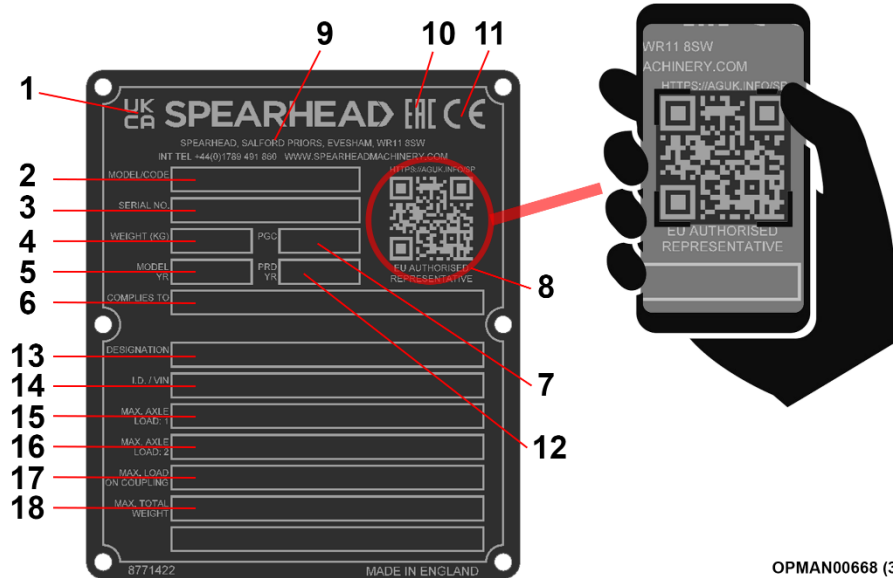

Figure 1.6 – Serial Plate
By utilising a smart phone and scanning the Authorised Representative QR scan code found on the right-hand side of the serial plate (ref 8, Figure 1.6) using a suitable QR scanning App, you can find details for Spearhead Machinery authorised representatives for its various territories.